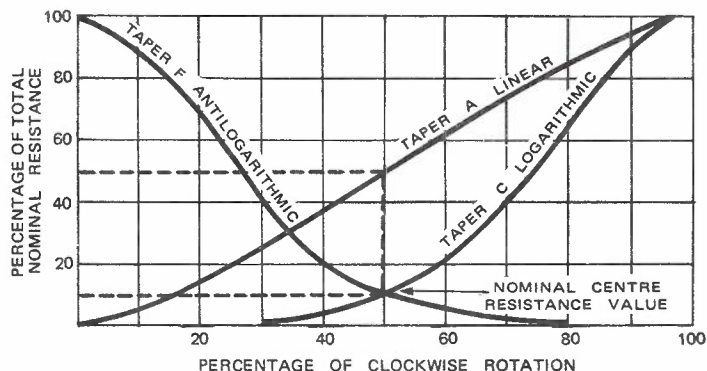

FIG. 11. THREE RESISTANCE TAPERS.
**3.16 VARIABLE RESISTORS – TAPER.** The percentage of resistance tapped for a particular position of the wiper on the track depends upon the nature of the resistive element, which is designated as its 'taper'. For instance, the resistance tapped on a linear taper element (taper A) is directly related to the position of the wiper. (For practical purposes, Taper A is considered linear). When the wiper is halfway along the element it taps half of the total element resistance. Fig. 11 gives three commonly available tapers, and shows the percentage resistance tapped when the wiper is half way along the element. Note that Tapers C and F are non-linear. Because of their characteristics, Taper C is termed logarithmic and Taper F is termed antilogarithmic.